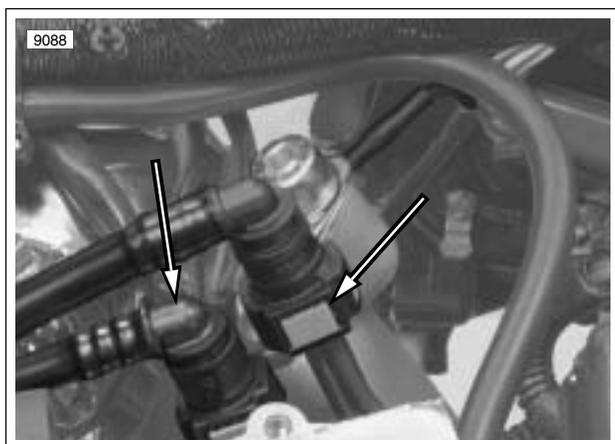

Figure 1-57. Fuel Line
3. See Figure 1-57. Remove fuel lines.
6. Disconnect throttle position (TP) sensor connector [88B] from throttle body.